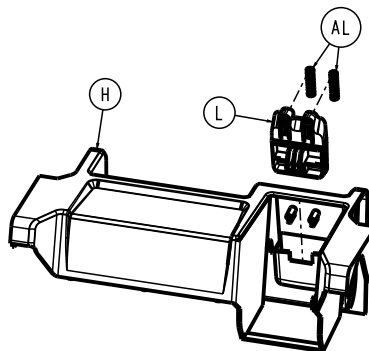

Figure 6 –
**Note** - The battery release button (L) and compression wires (AL) may fall out when you route the battery housing assembly from the power box upper cover (H) (Figure 6). Reinstall the battery release button and compression wires, if needed.